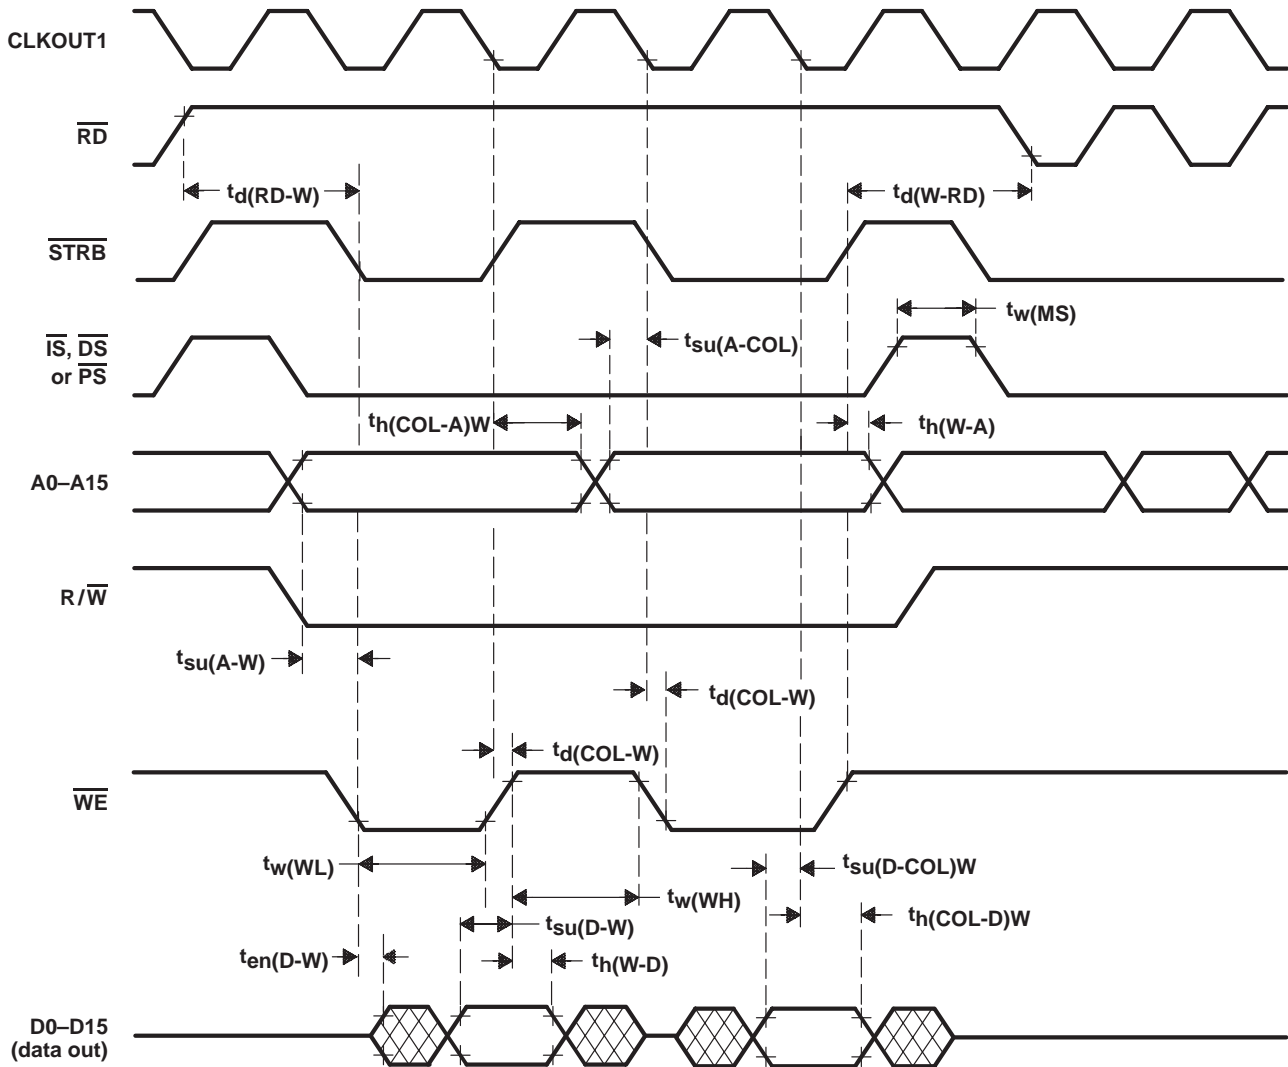

Figure 11. Memory Interface Write Timing for TMS320C203/LC203
switching characteristics over recommended operating conditions @ 5 V [$H = 0.5t_{c(CO)}$] (see Figure 11)
switching characteristics over recommended operating conditions @ 3.3 V [H = 0.5 t_c (CO)] (see Figure 11)